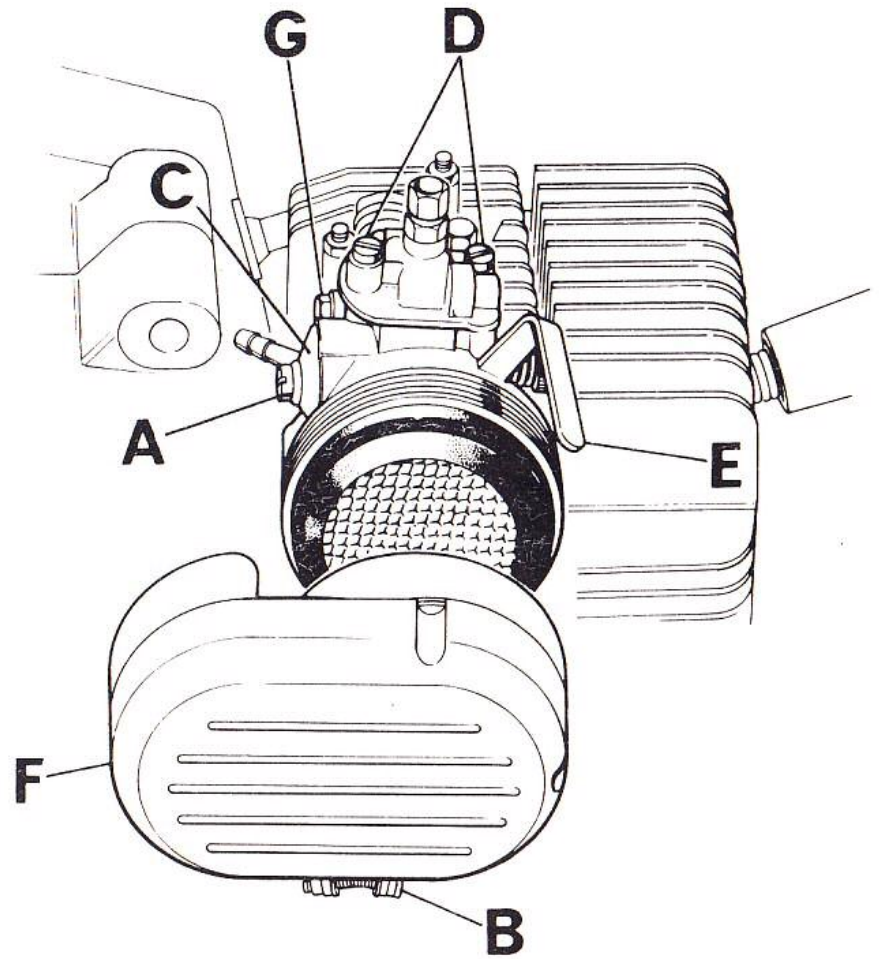

Figure 9
To gain access to the air cleaner, merely slacken the clip bolt (B) Fig.9 clamping it to the carburettor, twist and pull the grey plastic cleaner cover away. The air cleaner element is now visible and is a push-in fit to the carburettor. If necessary a screwdriver blade can be used beneath the lip with care from both sides to pull the cleaner out without damage. To clean, wash the element in clean petrol and then re-oil by immersion in light engine oil equally diluted in petrol. Allow to drain then re-fit.
CARBURETTOR FILTER (FIG. 9)
CLEANING CARBURETTOR (FIG. 9)